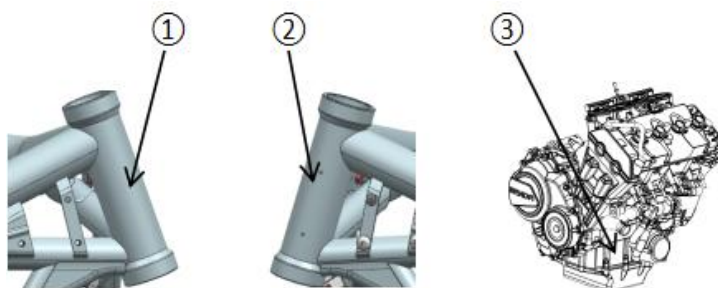

Fig1 Nameplate、 Vehicle frame number VIN code、 Engine number position
1.2 Number position (Fig1)
①、 Vehicle frame number(VIN):Front end of frame (right side of front pipe);
②、 Nameplate: Front end of frame(Left side of front pipe);
③、 Engine number:Right side of the engine casing;